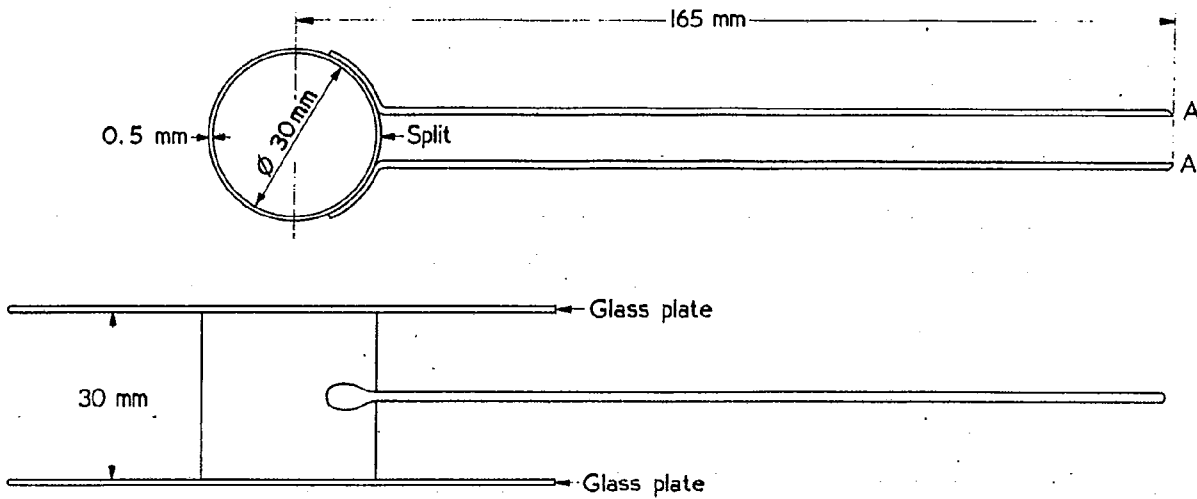

Figure 1. Apparatus for the 'Le Châtelier test'
2.1 Small split cylinder (figure 1) of spring brass or other suitable metal of 0.50 ± 0.05 mm thickness, forming a mould 30.0 ± 0.5 mm internal diameter and 30.0 ± 0.5 mm high. The inside surface of the mould shall be thinly coated with mould oil. On either side of the split are attached two pointers (AA). The distance from these ends to the centre of the cylinder shall be 165 ± 2 mm. The split shall be not more than 1 mm wide.